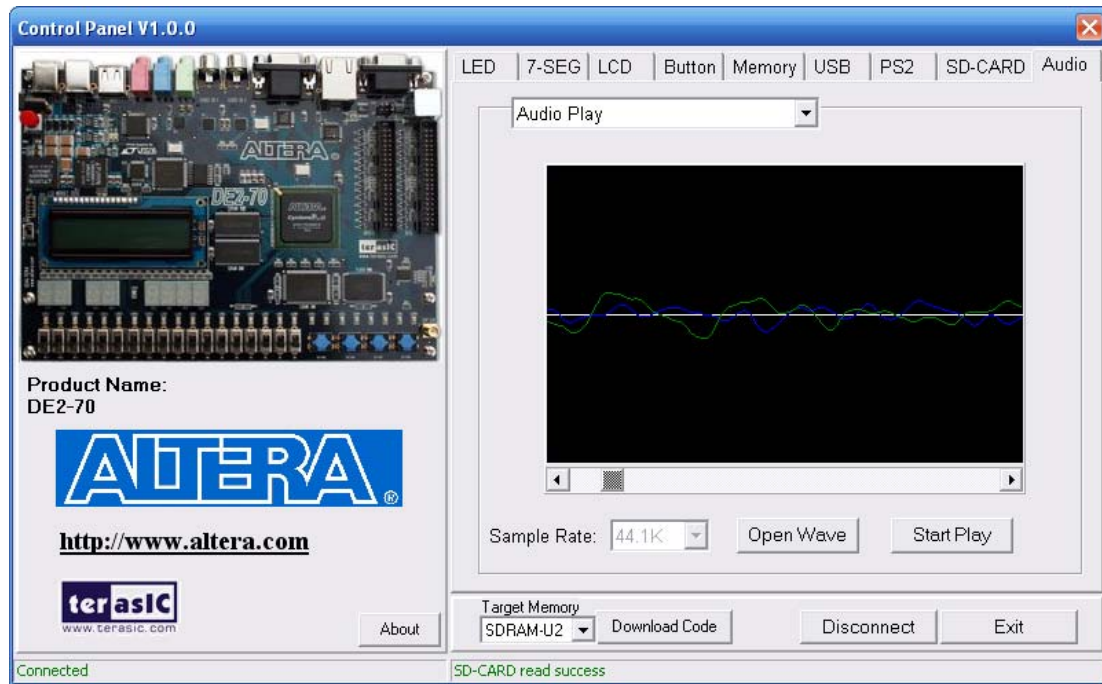

Figure 3.11. Playing audio from a selected wave file
1. Choosing the **Audio** tab leads to the window in Figure 3.11.
3. Select the “Play Audio” item in the com-box, as shown in Figure 3.11.